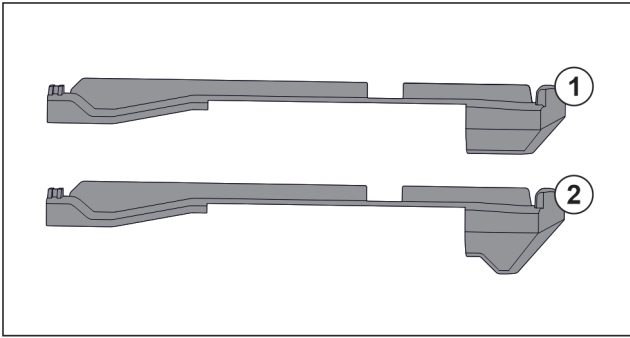

Fig. 220 Comparing attachments
There are two different attachments in the appliance. The attachment above the lowest drawer *Fig. 220 (2)* has a three-cornered edge. All other attachments *Fig. 220 (1)* have a straight edge.
- ▶ Fit attachment *Fig. 220 (2)* with the three-cornered edge above the lowest drawer.
- ▶ Fit attachment *Fig. 220 (1)* with straight edge in all other positions.